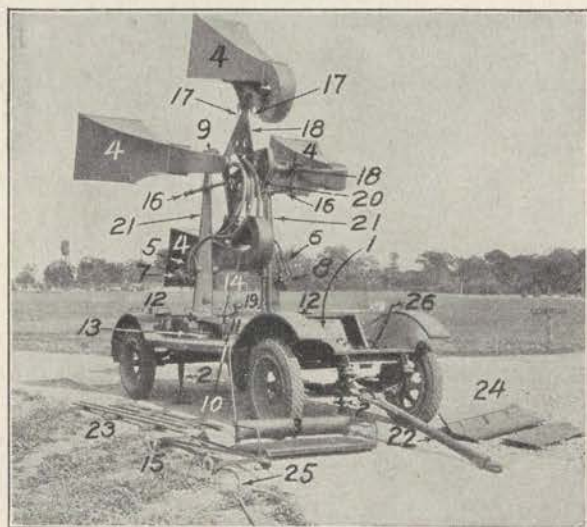

FIGURE 19.—Sound locator M1A1.
- (3) Listener's helmet.
- (4) A mounting for the horns so that the locator may be moved in azimuth and elevation by handwheels.
- (5) An acoustic corrector to correct for sound lag.
(6) A data transmission system to send corrected data to the searchlight so it may be pointed correctly.
*Q.* Point out and give purpose of the parts of an M1 series sound locator. *A.* See figure 19.